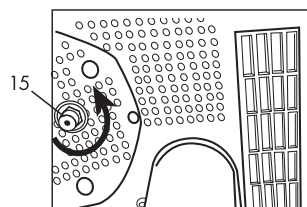

Fig. 17
De-scale the boiler at regular intervals (if necessary). To do so, unscrew the drain plug (15) from under the machine. Fig. 17.